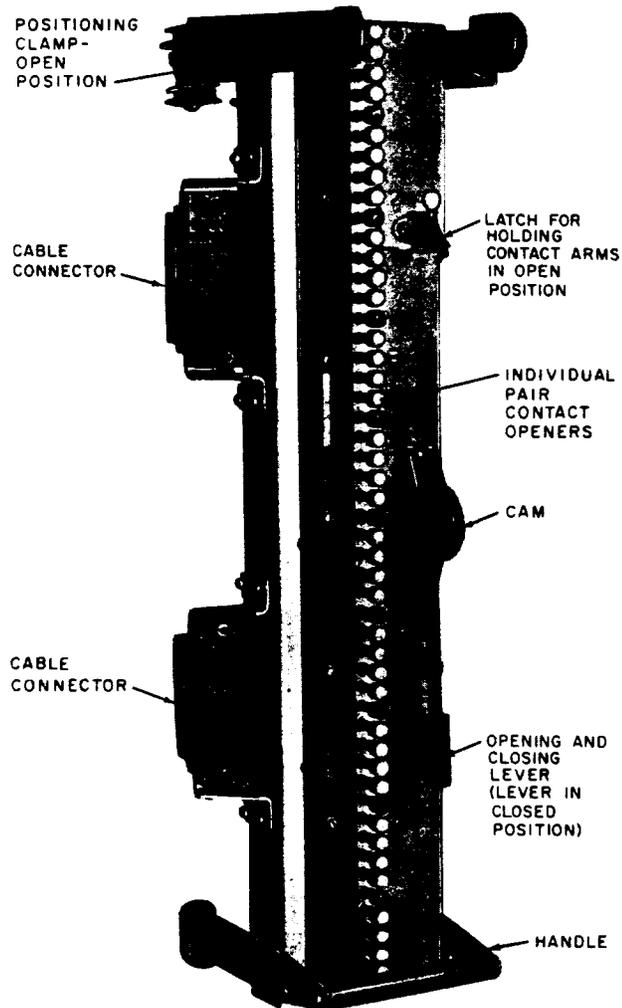

Figure 16—B Test Connector (AT-8148) — Front View
2.19 The B test connector (Figure 16) is designed to provide a quick and reliable means for making electrical contact, 50 pairs at a time, with the cable side of either the 1177-, C50-, or C52-type protectors. The P100A and P100B cords are required to interconnect the test connector to automatic pair identification equipment. Cords and connector case must be ordered separately.